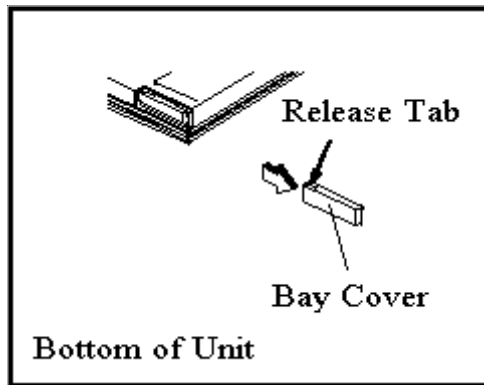

Figure 6-4 Removing the HDD Bay Cover
3. Turn the computer over and locate the release tab for the hard disk drive bay cover (refer to Figure 6-4).
4. While pressing slightly on the release tab (Figure 6-4), slide the cover to the right and set aside.